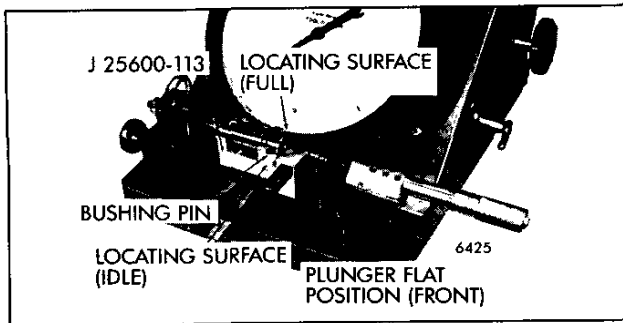

Fig. 15 Cradle Mounted on Fixture
1. Select the proper cradle for the plunger/bushing to be tested and mount on the fixture (Fig. 15).
5. Place the plunger/bushing in the cradle. Be sure the plunger flat and locating pin or slot is properly positioned (Fig. 15). To check in *full-fuel* position, rotate bushing until the bushing pin contacts the rear locating surface.